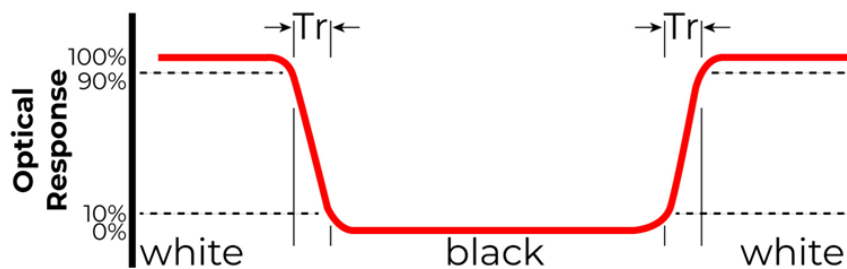

Figure 2. The definition of response time
| Contrast Ratio          | Cr                |                                                              | 800  | 1000 | -    | ---               | FIG 2. | 1    |
| Luminance Uniformity    | $\delta$WHITE |                                                              | -    | 75   | -    | %                 | FIG 2. | 3    |
| Surface Luminance       | Lv                |                                                              | -    | 1000 | -    | cd/m 2 | FIG 2. | 2    |
| CIE (x, y) Chromaticity | Rx                | $\theta=0^\circ$$\phi=0^\circ$$T_a=25^\circ\text{C}$ | 0.22 | 0.26 | 0.30 | -                 | FIG 2. | 5    |
**Note 1.** Contrast Ratio (CR) is defined mathematically as below, for more information see Figure 2.
**Note 2.** Surface luminance is the LCD surface from the surface with all pixels displaying white. For more information see Figure 2.
**Note 3.** The uniformity in surface luminance  $\delta$  WHITE is determined by measuring luminance at each test position 1 through 5, and then dividing the minimum luminance of 5 points luminance by maximum luminance of 5 points luminance. For more information see Figure 2.